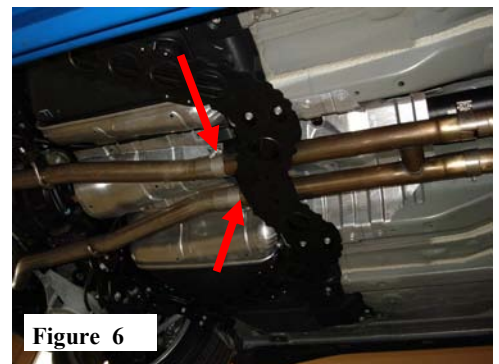

Figure 6
3. Place a clamp over Right and Left H-Pipe end and install Left and Right Rear Pipe Assemblies using (2) factory hangar rubber isolators. (See Fig 6)